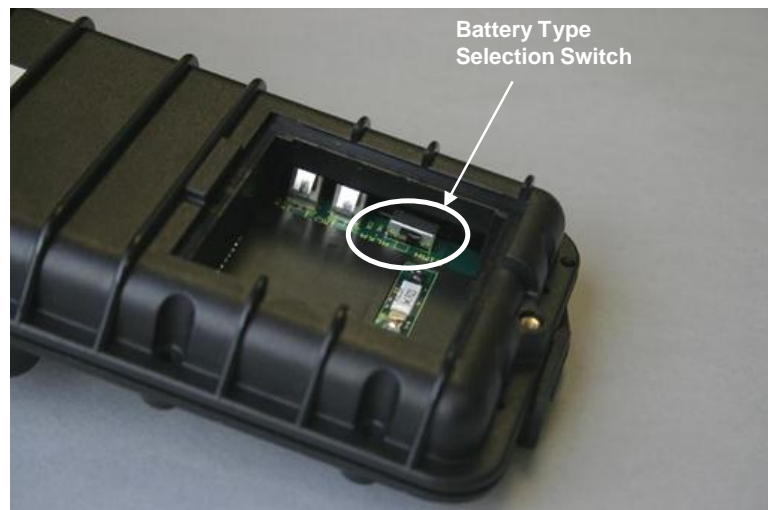

Figure 2-1
5. Set the battery-type selection switch to NiMH (see Figure 2-1).